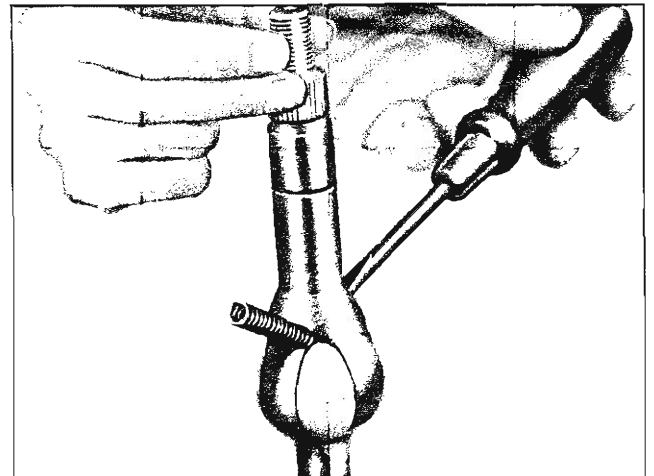

Fig. 31—Installing Spherical Joint Spring
3. Insert the joint preload spring through the spheres into the lower shaft. Then, using the upper shaft to hold the spring in place, carefully feed the spring into the upper shaft joint with a narrow bladed screwdriver (fig. 31).